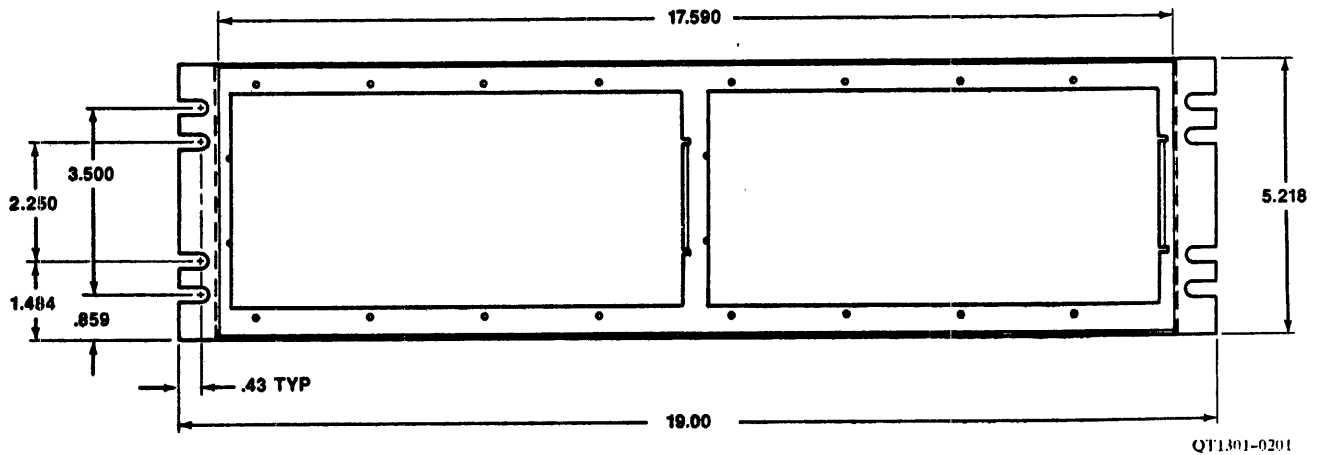

Figure 2-12. Rack-Mount Panel
There are two possible separate cabinet configurations. In one, the transport is mounted in a freestanding RETMA rack (a RETMA rack attached to a PDP CPU cabinet is not considered a separate cabinet installation). In the other configuration, the transport has its own cabinet and is itself freestanding. These two configurations are shown in Figures 2-12 and 2-13. The cabling procedure that follows is a generic one for use with either configuration.
4. Install a rack-mount panel in the RETMA rack (Figure 2-12) or peripheral cable adapter kit in the transport cabinet (Figure 2-13).
8. Route one end of the prepared cable through the widest slot in the cable I/O adapter panel (see detail in Figure 2-12). Clamp the bare shielding against the cable I/O adapter panel with the clamping bar.